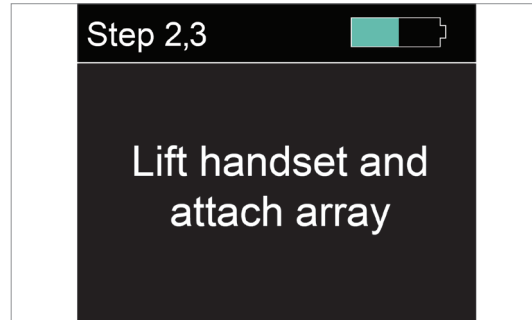
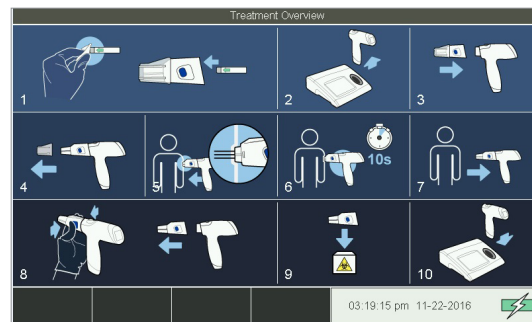

Figure 39 Attach Array Handset Display
Figure 40 Treatment Overview Screen
17. "Lift handset and attach array" is displayed on the handset (see Figure 39). The *Treatment Overview* screen is displayed on the Base Station (see Figure 40).